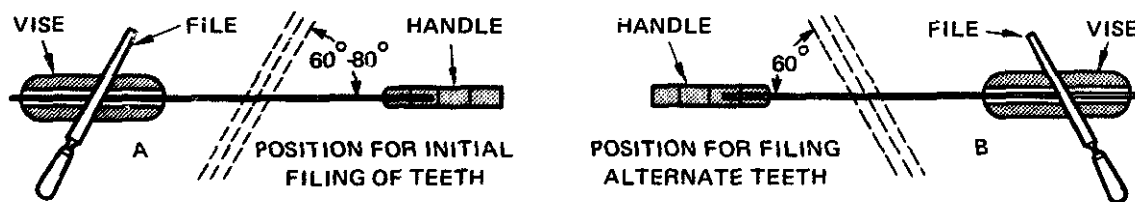

Fig. 7-23 Positions for filing teeth.
5. Reverse the saw from position A, figure 7-23, to position B and file the alternate teeth to shape. Keep the file at the same angles with respect to the tooth and blade as described before.